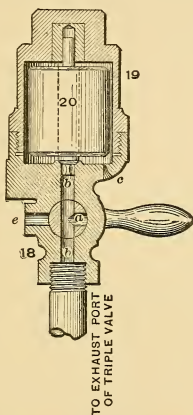

FIG. 9.—PRESSURE RETAINING VALVE.
A. In the position shown in the cut (Fig. 9).
A. A leak in the plug valve operated by the retainer handle; weight 20 (Fig. 9) being gone or dirt on its seat; a split pipe leading from the triple exhaust to the retainer, or a leak in the packing leather in the brake cylinder which would allow the air to escape to the atmosphere.
*Q. Do the latest retaining valves have the ports in the plug valve as shown in Fig. 9?*